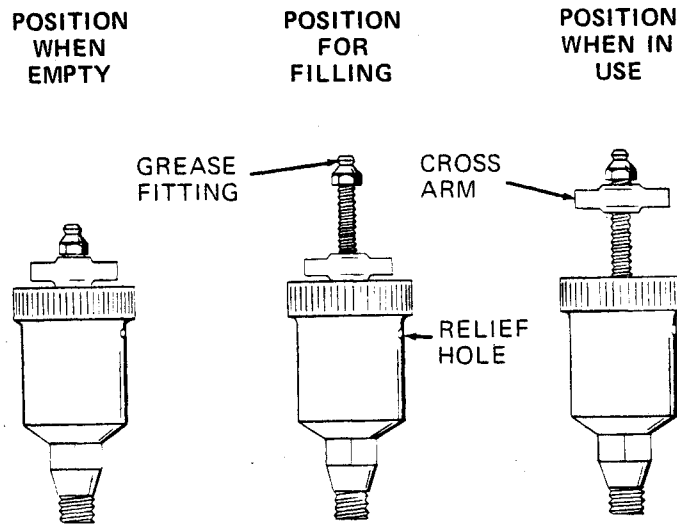

Figure 4. Automatic Lubricating Grease Cup
Before removing the seal assembly, turn the cross arm on the seal grease cup (11) clockwise until it rests against the cover (see figure 4). This will prevent the grease in the cup from escaping after the seal is removed.
Before starting the pump, fill the grease cup through the grease fitting with a good grade of No. 2 pressure gun grease until grease escapes from the relief hole. Turn the grease cup arm counterclockwise until it is at the top of the stem; this will release the spring to apply grease to the seal (see figure 4).